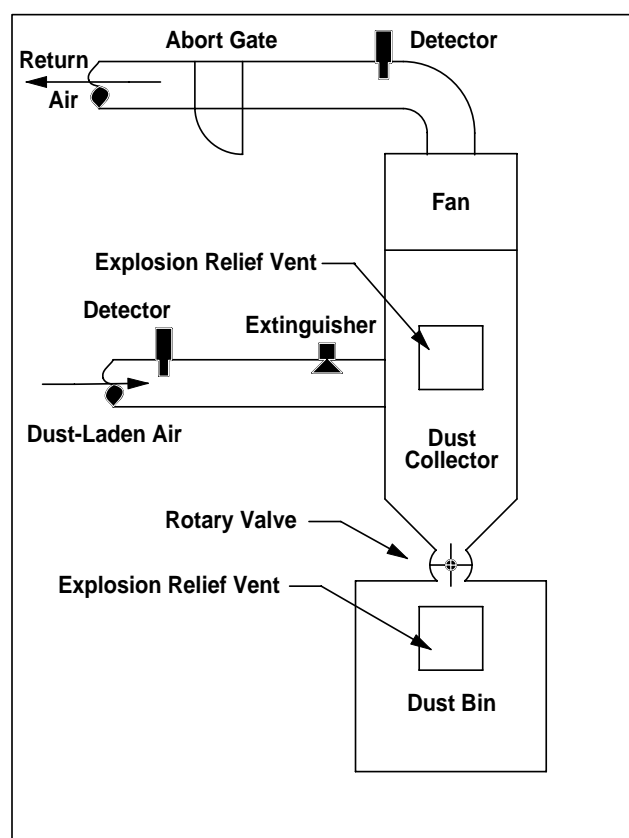

Figure 1
- Dust Collection Systems (Figure 1):